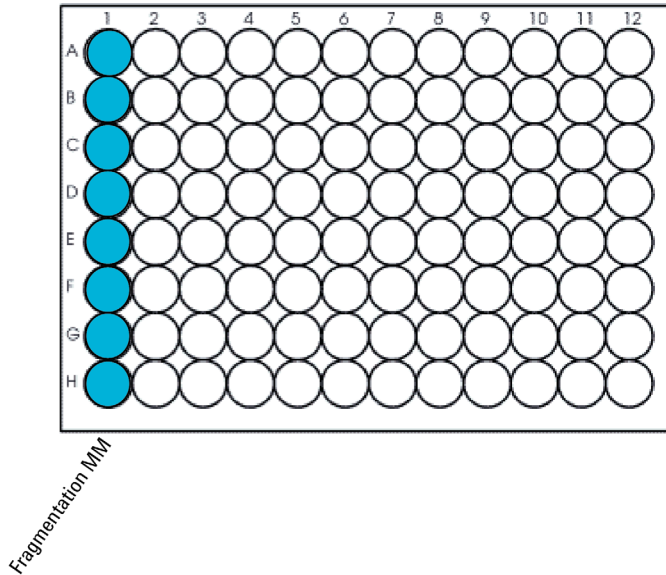

Figure 3 Configuration of the **Agilent Deep Well** source plate for protocol 00a RNA_Frag_XT_HS2_ILM
- 7 Prepare the **Agilent Deep Well** source plate for the run as indicated in **Table 21**. Add the indicated volume of 2X Priming Buffer to all wells of the indicated column of the Agilent Deep Well plate. Keep the 2X Priming Buffer on ice during the aliquoting steps. The final configuration of the master mix source plate is shown in **Figure 3**.